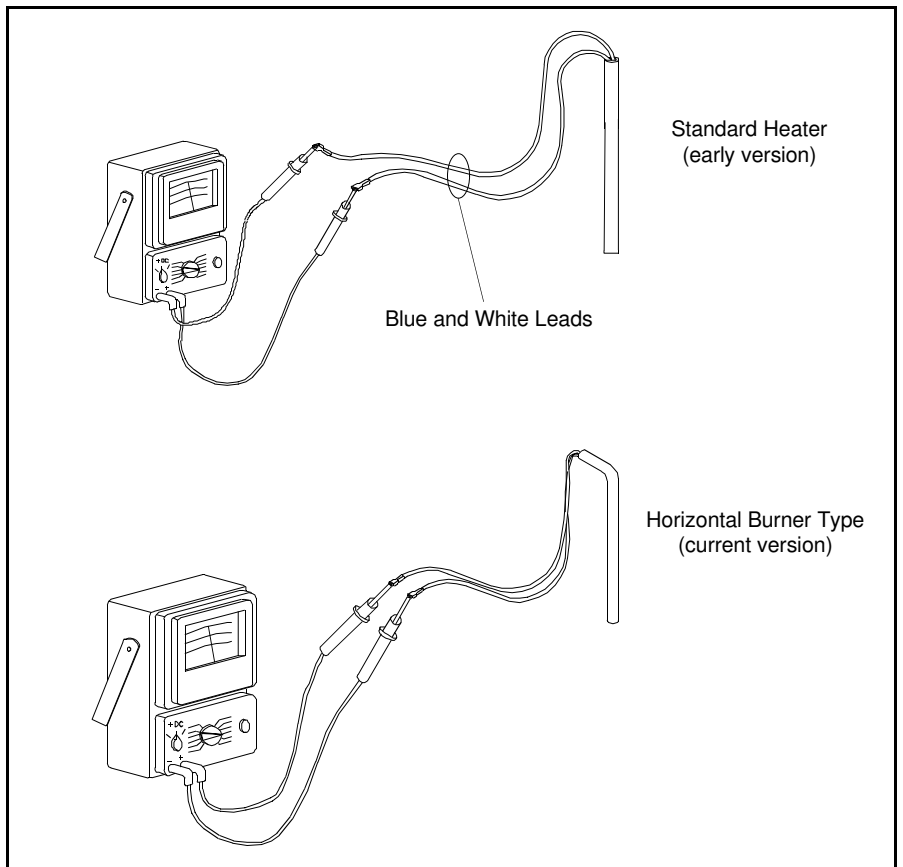

Figure 5.62 Heater Resistance Check
22. If 12 Volts DC is present, check resistance of the DC Heater element as shown in Figure 5.62. If not within allowable specification (see Technical Data section), replace heater.